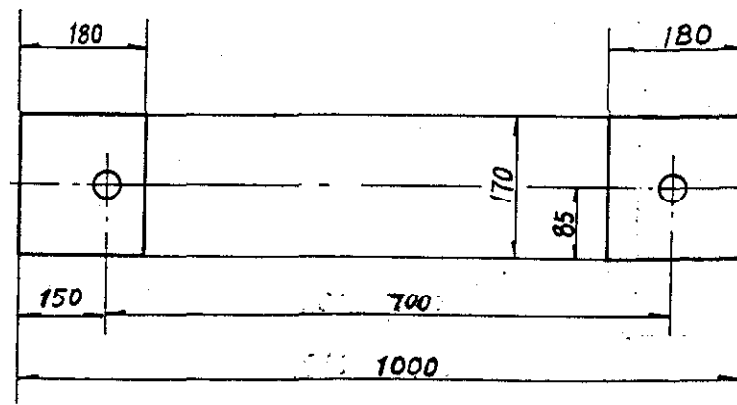

Figure 1 Installation
2. It must be installed on hard wood board or iron plate. The size of base plate is shown in Figure 1. It should not be installed on a soft wood board or landslide, otherwise it may cause vibration and displacement which will influence precision.